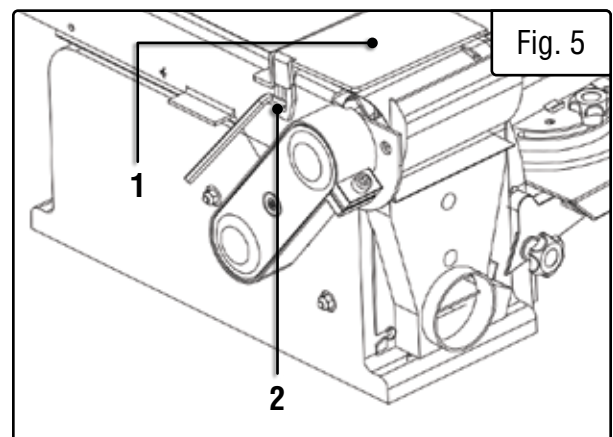

Fig. 5
1. Align the work support (Fig. 5 - 1) with the hole.
3. Insert the hex screw into the work support hole and tighten (Fig. 5 - 2).